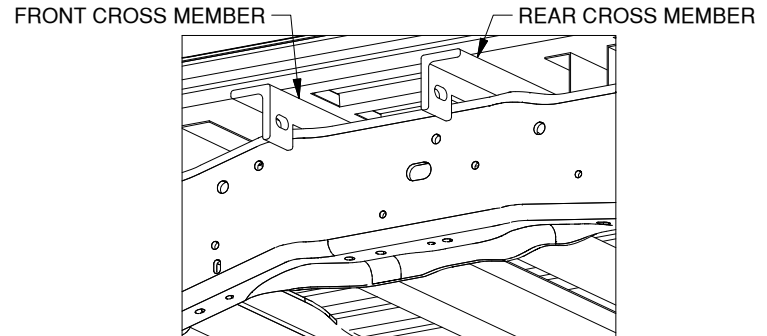

Figure B1: View outside of driver side frame.
2. **Place front cross member.** Using the methods in step 1 as a guide Install the front cross member. When placing the front cross member over the frame, the leg of the angle with the oval holes should face towards the rear of the truck. Slide the cross member rearward just behind the shock bracket and leave until needed for installation. When installed correctly the two angle legs with the holes should be facing each other, see Figure B1.